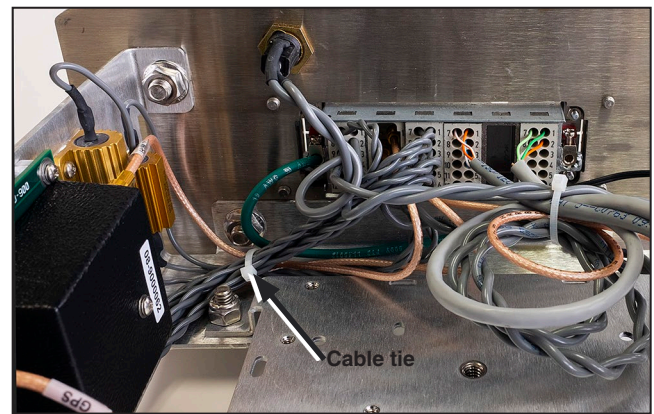

Figure 8. The indicated cable tie must be cut.
- STEP 5.** Cut the cable tie indicated in Figure 8.